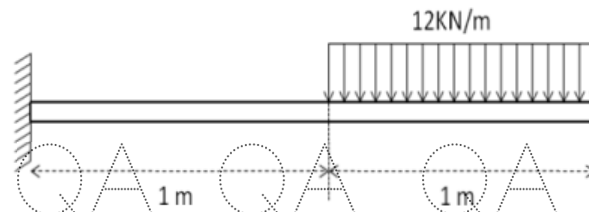

Figure 3
b) For the beam and loading shown in figure 3, Determine; (i) slope at 2 and 3 (ii) vertical deflection at the midpoint of the load Take  $E=200\text{GPa}$ ,  $I= 4 \times 10^6 \text{ mm}^4$ . [2+8]